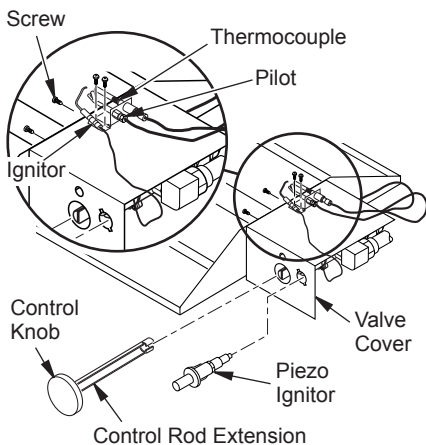

Figure 11 - Installing Cover, Control Knob and Piezo Ignitor
10. Install thermocouple, pilot and ignitor onto valve cover as shown in Figure 11. Use the provided screws.